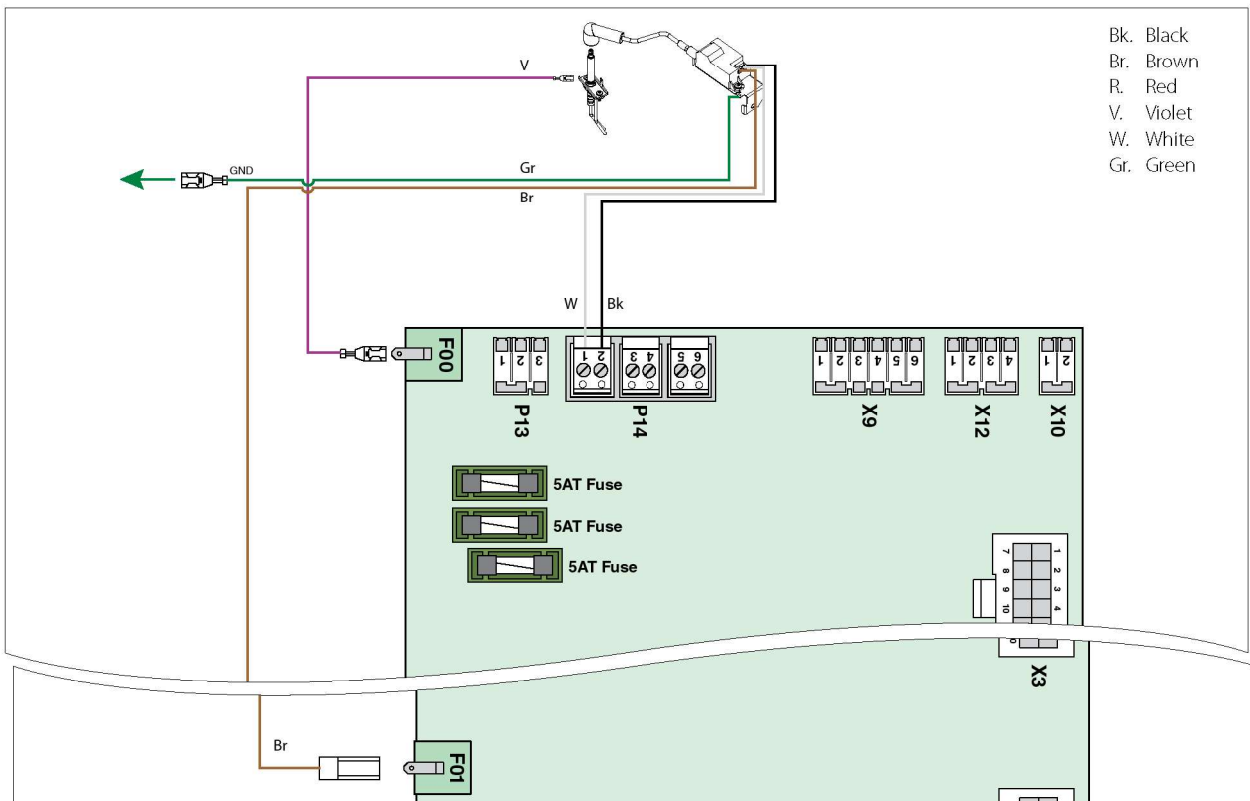

Fig. 14 - Prestige Solo & Excellence - PCB Wiring - Post Modification
7. Connect the spark generator power supply connector to the free receptacle of the P14 terminal (pins 1&2) of the PCB (See Fig. 14).
8. Connect the violet ground wire to the ground connection on the PCB, and on the ground lug located on the igniter bracket (See Fig. 14).
9. Connect the green ground wire from the spark generator to the ground tab located at the bottom right hand side of the chassis (See Fig. 14).